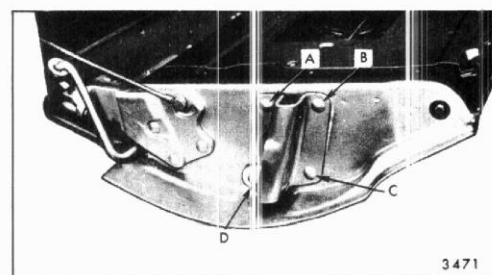

Fig. 9-26-Dual Acting Tail Gate Left Upper Hinge and Lock Assembly - "B" Body Shown - "A" Body typical
2. On "B" body styles, bolts A, B, C and D (Fig. 9-26) are all retained by nuts accessible through tail gate inner panel. On "A" body styles, bolts A and B fit into a tapping plate and bolts C and D are retained by nuts. In either case and on both style series, all bolts are pressed into the lock assembly and removed as a unit - not separately.